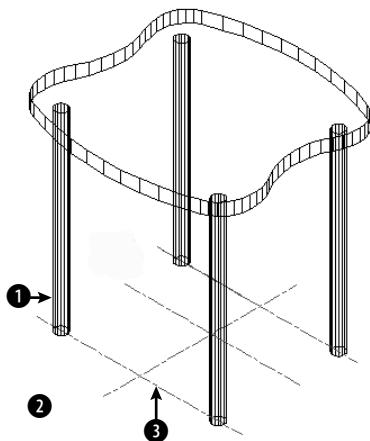

Figure 21-20: Part of a 3D chair.
11. To see the result, type **hide** ↵. Remember that the polyline has no top or bottom surface. Imagine your model as a glass-bottomed chair. It should look like Figure 21-20.
12. Choose Tools ⇨ Inquiry ⇨ List. Select the front-left leg at ❶ in Figure 21-20. Press Enter. The center (of the circle at the bottom of the leg) is  $X = 3.5000$ ;  $Y = -7.0000$ ;  $Z = 0.0000$ .
15. Choose Tools ⇨ New UCS ⇨ View. The UCS is now parallel to your current view. Choose Draw ⇨ Text ⇨ Single Line Text. Start the text at ❷ in Figure 21-20. Set the height to 1.0 and the rotation to 0. Type **A glass-bottomed chair**. Press Enter twice to end the command.
16. Choose Tools ⇨ New UCS ⇨ Object. Pick the line at ❸. Choose Tools ⇨ New UCS ⇨ Origin. Type **0,0,17** as the origin to place the UCS at the top of the seat.